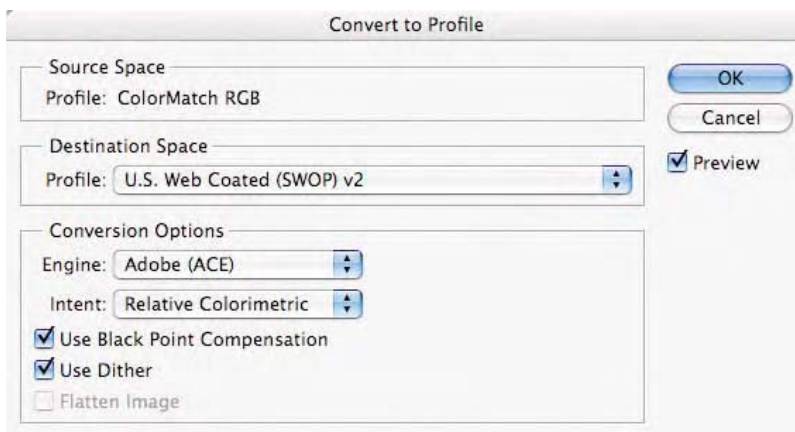

Fig. 9-15-1 Set Photoshop's **Convert to Profile** command as seen here.
3. Choose **Image-Mode-Convert to Profile** in Photoshop CS or **Edit-Convert to Profile** in CS2 as seen in Fig. 9-15-1. From the **Profile** pop-up menu, select **U.S. Web Coated (SWOP) v2**. From the **Engine** pop-up menu, select **Adobe ACE**. From the **Intent** pop-up menu, select **Relative Colorimetric**. Have **Use Black Point Compensation** and **Use Dither** check boxes on. Be sure the **Preview** check box is on. Click **OK**.